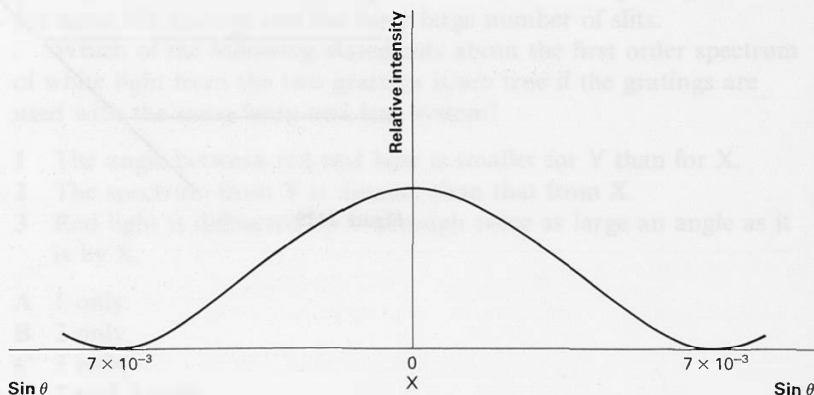

Figure J128
If slit S_2 is covered up, the variation of the intensity of the light transmitted by slit S_1 on both sides of the line S_1O parallel to the incident light will vary with $\sin \theta$, as shown in figure J128.
- If slit S_2 is now uncovered, there is still a maximum at X , where $\sin \theta = 0$. Copy figure J128 and mark with X s other places where there are now maxima. Show how you calculate these positions.